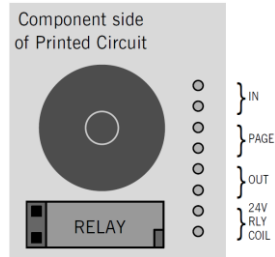

Figure 1. Showing relay in the "24V to over-ride" position.
- 'RLY' 24 volt DC to energise relay (see Fig. 1).
It is normally fitted as shown in Fig. 1, so that 24 volts DC applied to the 'RLY' terminals on the circuit board causes the volume control to be by-passed.
Voice restoration relay is shown in the 24V over-ride position, see Fig. 1.